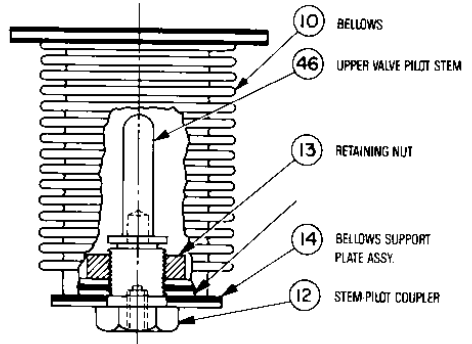

FIGURE 9 - BELLOWS ASSEMBLY
Note : For simplicity and ease of maintenance, a complete Internal Assembly comprising Fig 9, 10 and 11, with the exception of item 41 Seat Cage, is available ex-works. Alternatively, the individual sub assemblies can be supplied. A refurbishing service for customers' own Internal Assembly is also available by prior arrangement.